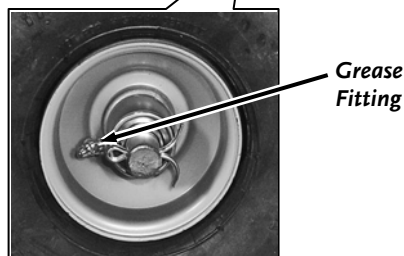

Figure 10
1. Grease the fittings on the front Caster Wheels (**Figure 10**).